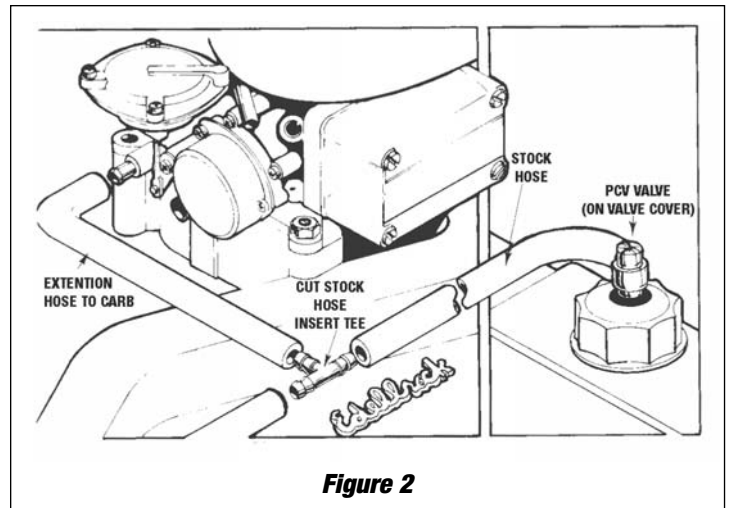

Figure 2
- **SPECIAL INSTRUCTIONS:** Charcoal purge canister and PCV hose on later model vehicles connects to the front of the OEM intake manifold. The charcoal purge canister vacuum hose will have to be connected with the 3/8" PCV hose. The PCV hose will have to be rerouted to the side of the Holley carburetor. (**See Figure 2**).